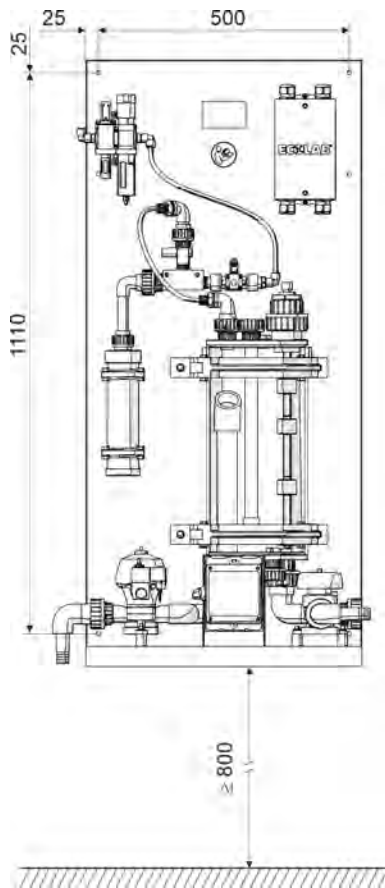

Fig. 10: Wall mounting
5. ➤ Attach the mounting plate together with the superstructures to the wall in accordance with Fig. 10.